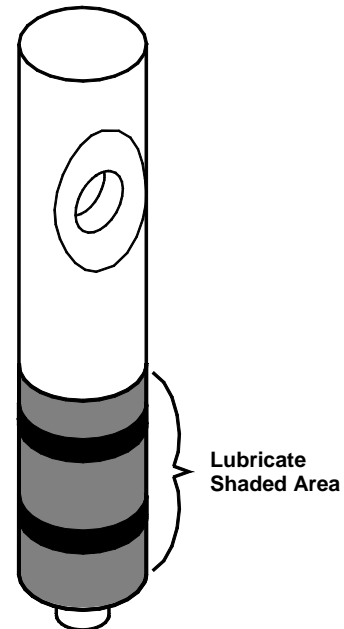

Fig. 8
a. Install the two o-rings on the spigot plunger by rolling them onto the plunger. Seat the o-rings in the grooves making certain that they are not twisted. Smooth the lubricant into the grooves and over the sides of the plunger assembly (Fig. 8).